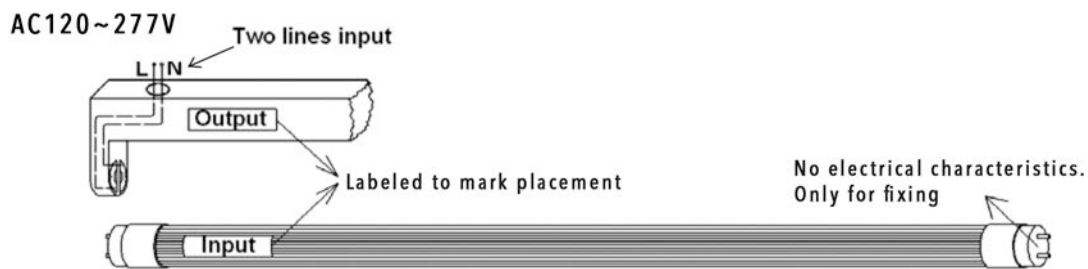

Fig.4
Step 2: According to the Schematic wiring diagram, connect the wires of L & N in AC120~277V with either lamp-holder at the end of fixture, then label the fixture end you wired as "Output" (see Fig. 4).
Step 3: Output Label: Put the "Output" sticker on the side of the fixture where the two lines come in. See Fig.4